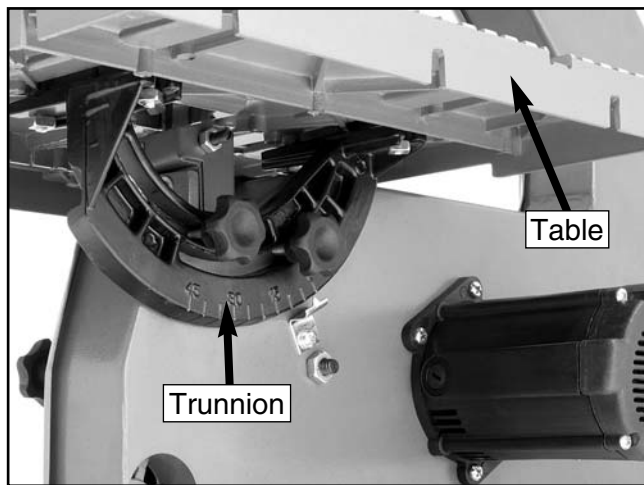

Figure 13. View of the table/trunnion assembly attached to the body of the bandsaw.
- Secure the table/trunnion assembly to the bandsaw with the two knob bolts that were removed in **step 5**, (**Figure 13**).